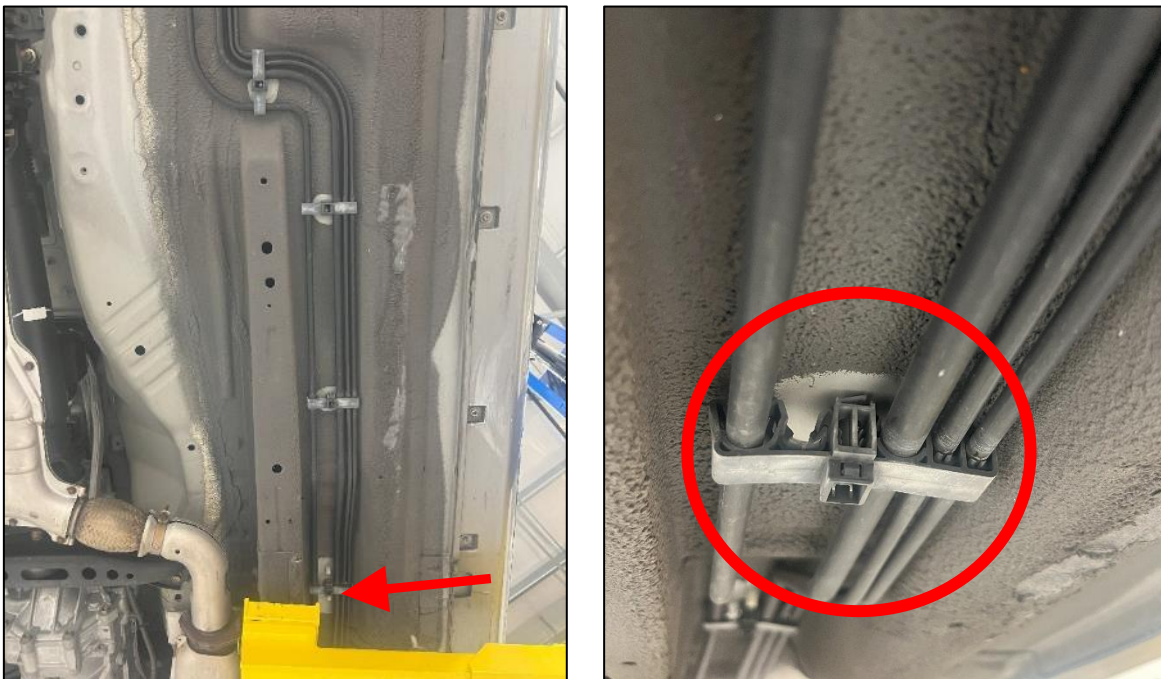

Figure 53
8. On the underside of the vehicle there will be several OE Hardline retaining clips (shown below). The 5th clip from the rear will be removed and replaced with the Z1 External Fuel Filter Mounting Bracket. Remove the 5th clip (shown below with an arrow) from the vehicle by pulling down. *Figure 53.*